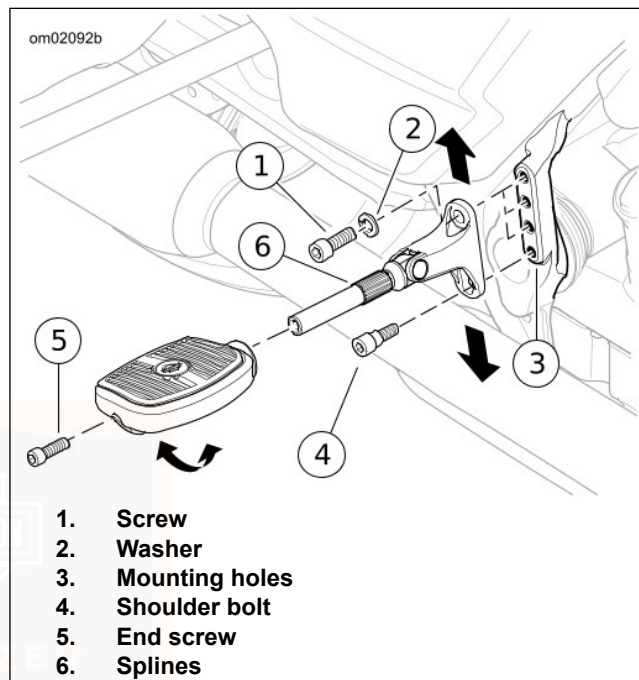

Figure 50. Passenger Footboards: FLHTKL
See Figure 50. If the bracket does not slide up or down, loosen but do not remove the lower shoulder bolt (4).
1. Remove the upper bracket screw (1), and washer (2).
1. See Figure 50. Remove the end screw (5).
3. Align the splines in the footboard to the mount splines (6) at your preferred angle. Press the footboard over the splines.